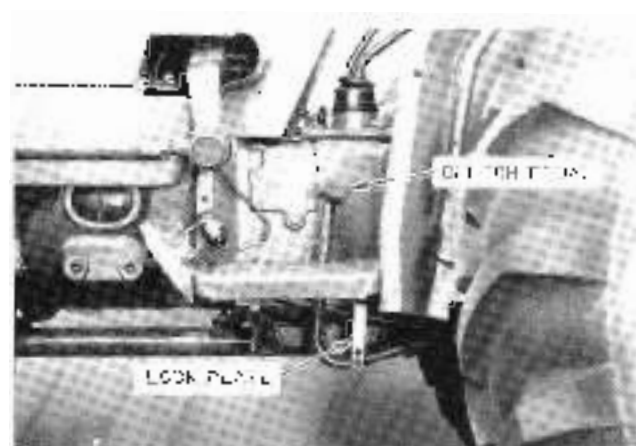

Figure 71 Setting the Lock Plate of Clutch Pedal
10. Set the lock place after depressing the clutch pedal completely to separate the clutch disk from the fly wheel (Figure 71).
5. Disengage the fork plate of clutch pedal by adjusting the fork plate position, Figure 71.